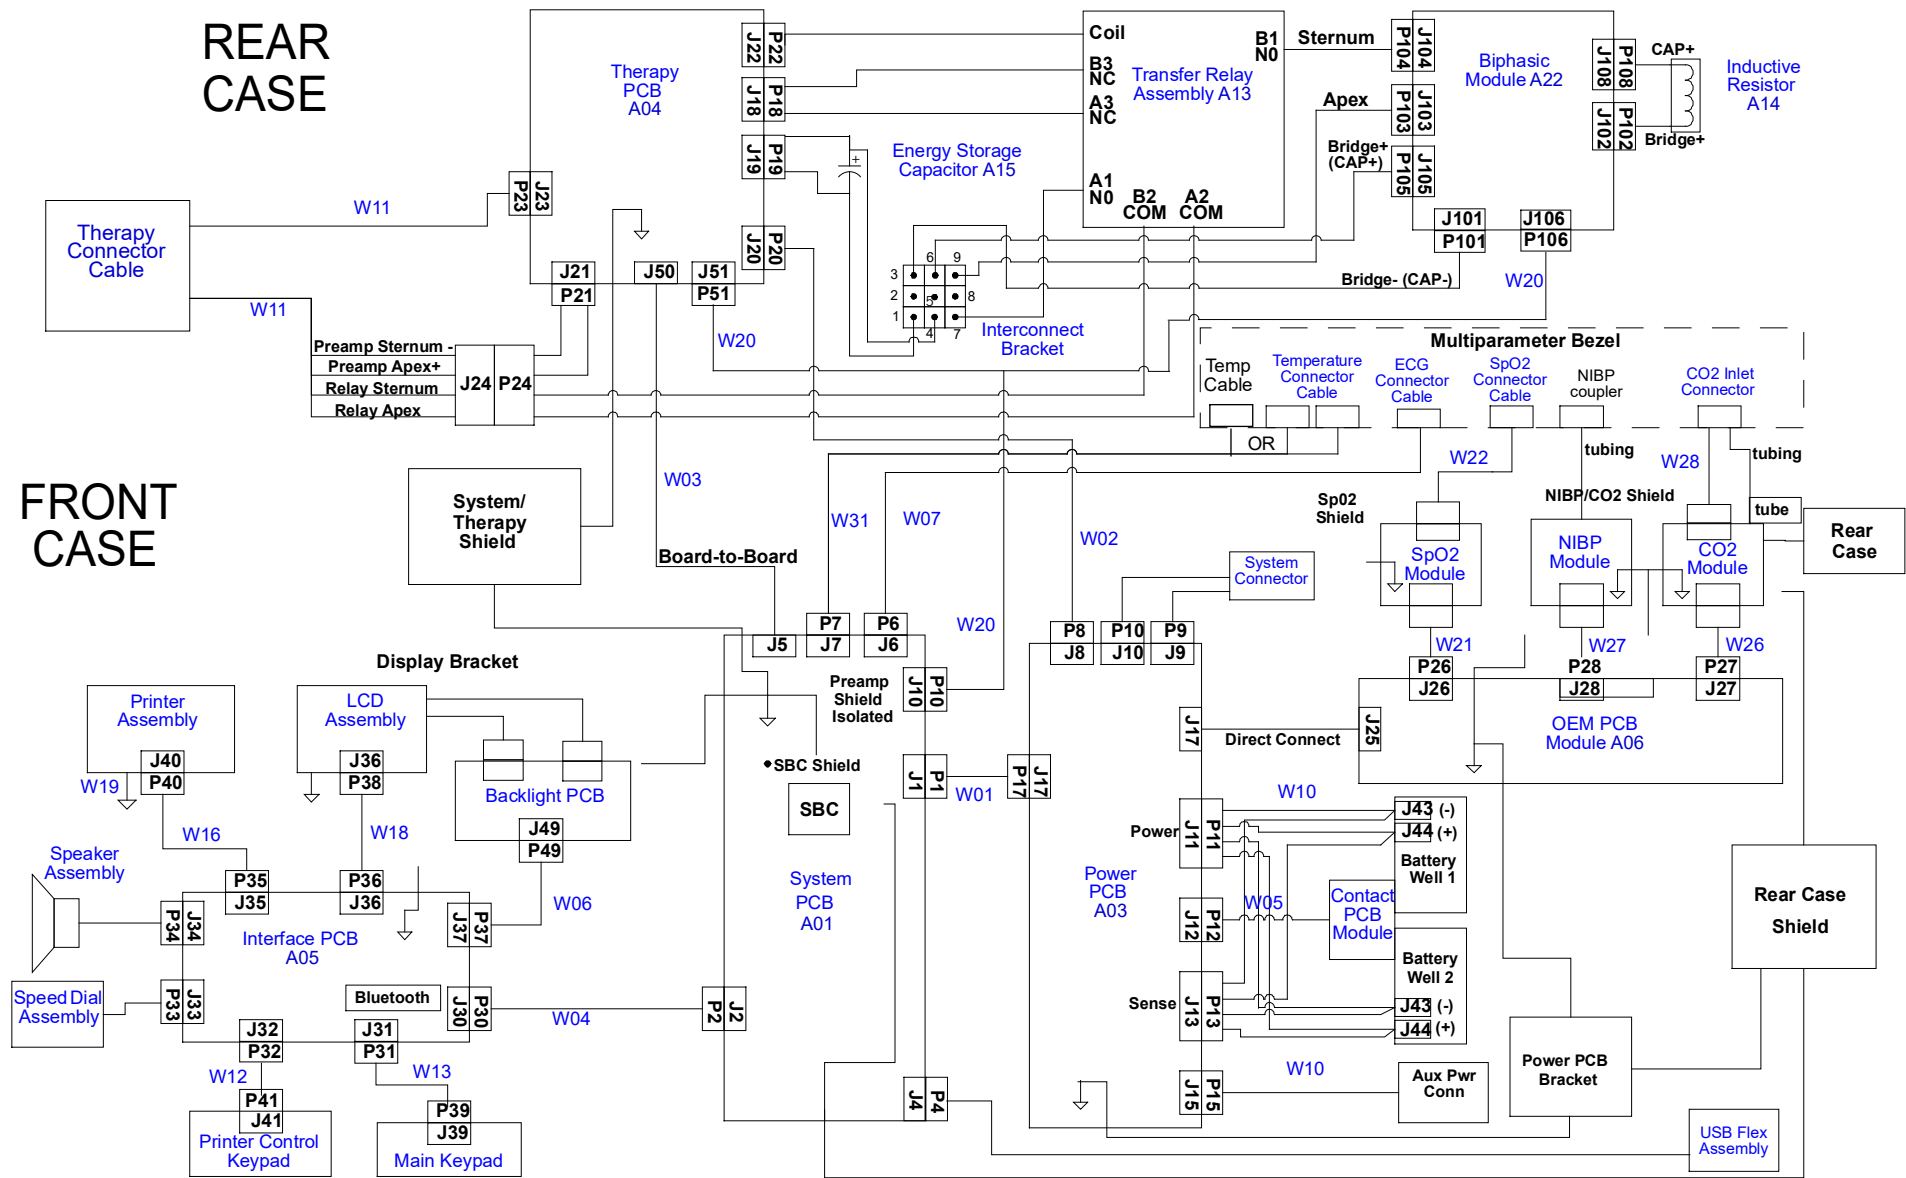

Figure 9.2—Interconnect diagram with detailed assembly, cable interconnect information, and links to each part diagram.
- Interconnect Diagram (Figure 9.2 on p. 377)—shows detailed assembly and cable interconnect information and provides links to each part diagram.